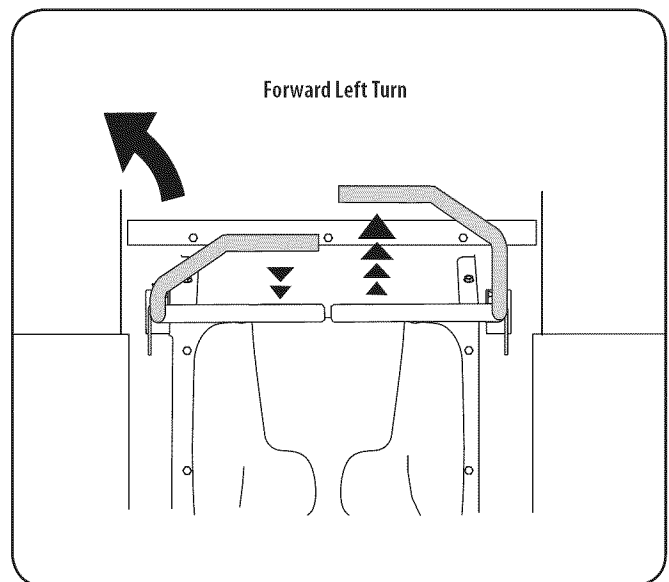

Figure 3
1. To turn to the left, move the left drive control lever rearward of the right lever. See Figure 3.